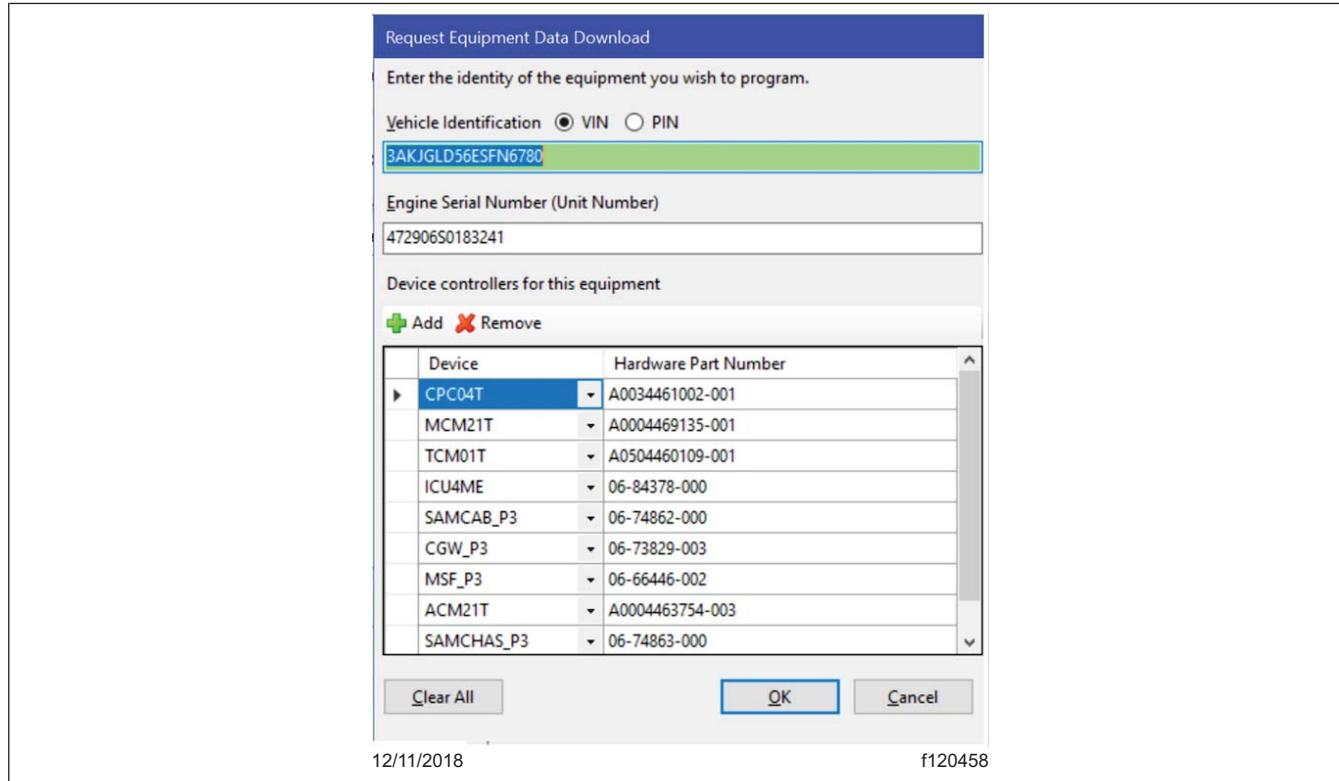

Fig. 7, Verifying Correct VIN Hardware
8. Make sure the correct VIN and hardware is populated, then click OK. See Fig. 7.
7. Make sure the correct VIN and hardware is populated, then click OK. See Fig. 7 on page 8.